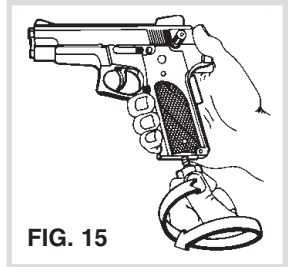

FIG. 15
2. With the muzzle pointed in a safe direction and the left-hand grip cover still in place, slowly turn puncture screw counterclockwise allowing any remaining gas to be discharged and continue turning screw until end stop is reached (see Fig. 15).